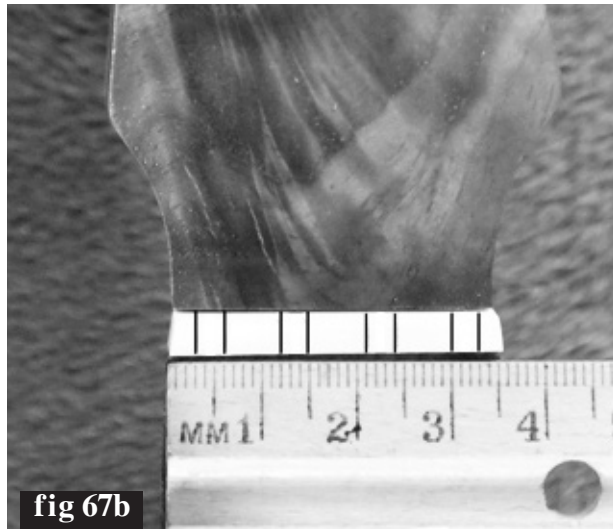
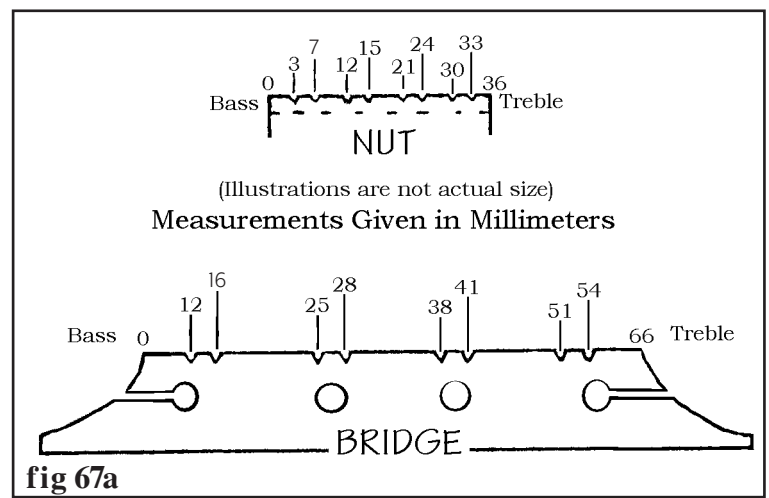

fig 67b
fig 67a
67. The Nut and Bridge need to be notched to hold the strings in the proper positions (fig 67a). It is best to use a metric ruler for marking these small measurements, as shown in fig 67b.